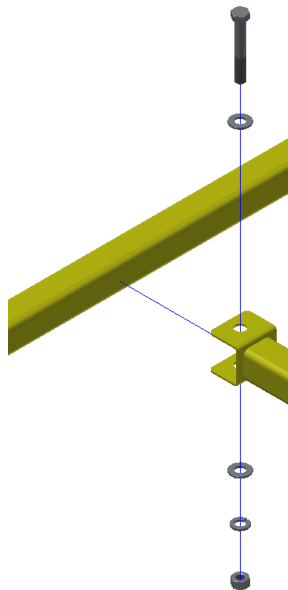

Figure 13: Machine Guard Side Frame Connection Exploded View
- Secure with provided 3/8 inch hardware as represented below (Figure 13).